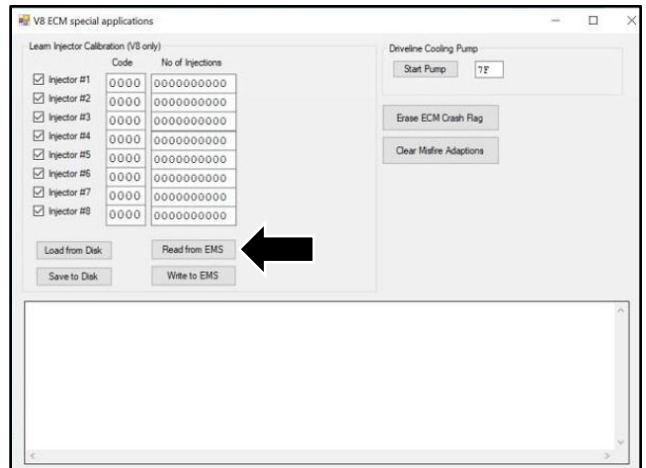

Figure 7
- 16. Select "Read from EMS" (refer to Figure 7).